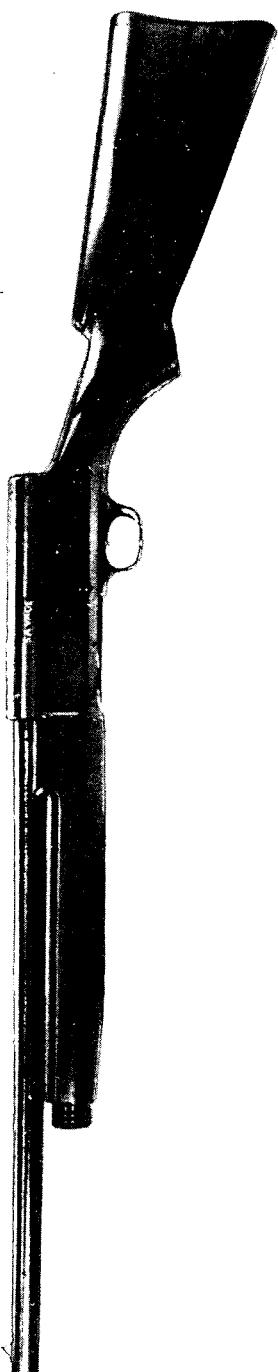

Figure 113—Left Side View—Riot Type—Savage Shotgun M720
(1) Name of maker and model number of the gun are stamped on the left side of barrel near the rear end, and the chamber length and gage size in the corresponding position on the right side of the barrel.
(2) The word "SAVAGE" is embossed on the left side of the receiver.
(3) The serial number of the gun is stamped on the forward lower face of the receiver and the left side of the trigger guard tang.
(4) The letters U.S. are stamped on the forward left face of the receiver.
b. This gun (figs. 113 and 114) is an autoloading or semiautomatic shotgun similar in every way to the Remington Gun M11 covered in Section VIII, which varies slightly from the Sportsman Model. Like the Remington gun this gun is recoil operated, the force generated by the expanding powder gas acting against the breech bolt on the recoil movement, together with the force generated by the compressed recoil and action springs on the counterrecoil movement, operates the mechanism of the gun to load, feed, extract and eject the shell, and cock the hammer. The trigger must be pulled each time to fire the gun.
(1) The riot-type gun (figs. 113 and 114) is usually furnished with a 20-inch plain barrel, bored full cylinder. Autoloading shotguns may not be equipped with bayonet attachments.
(2) The sporting skeet-type gun is usually furnished with a 26-inch plain or ribbed barrel, bored improved cylinder, and is without bayonet attachment or sling.